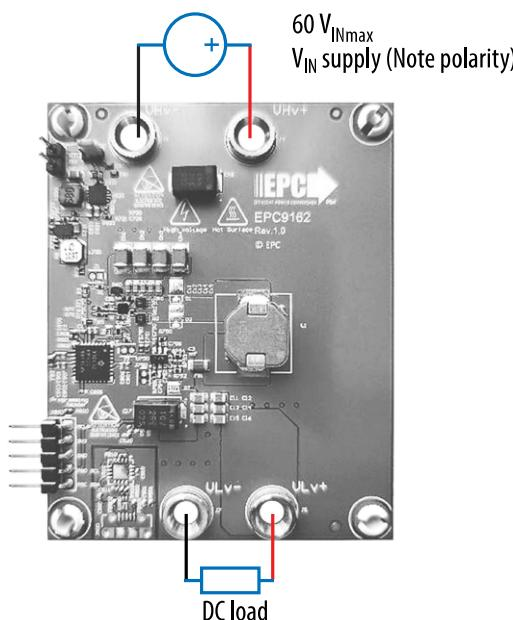
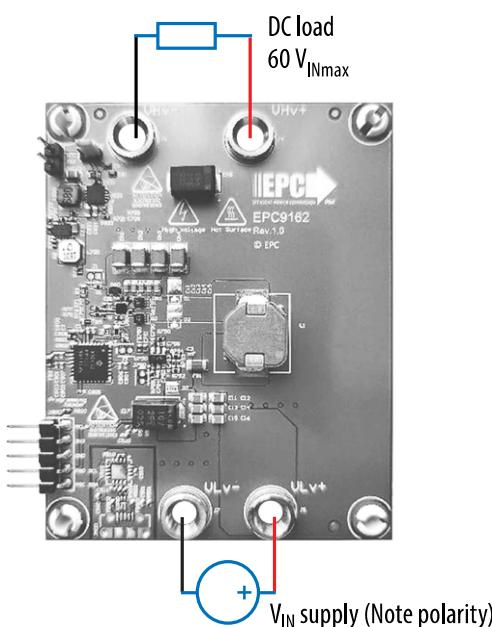

Figure 10: Input and output connection (buck)
Figure 11: Input and output connection (boost)
- With power off, connect the input power supply to  $V_{LV}$  or  $V_{HV}$  as shown in Figure 10 for buck operation and Figure 11 for boost operation.
- With power off, connect the load to  $V_{LV}$  or  $V_{HV}$  as in Figure 10 for buck operation and Figure 11 for boost operation.